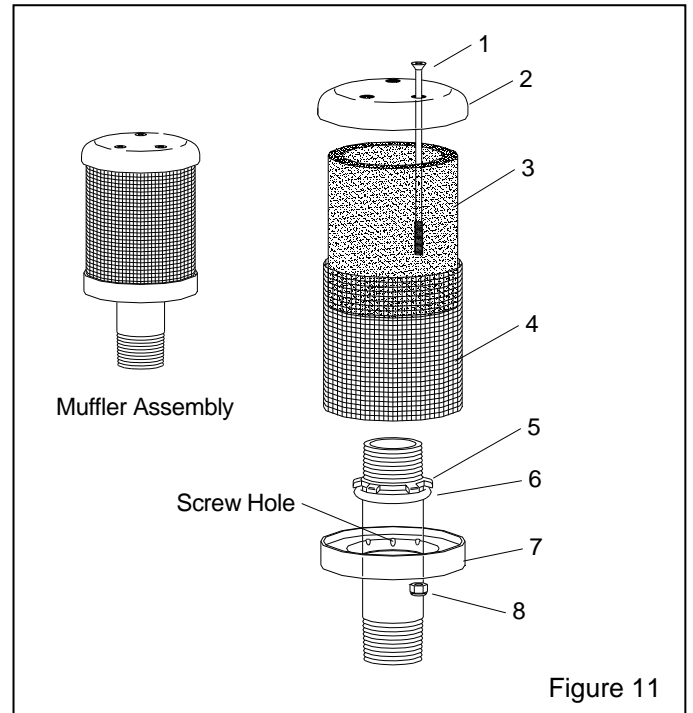

Figure 11
9.4 Muffler Assembly, Figure 11